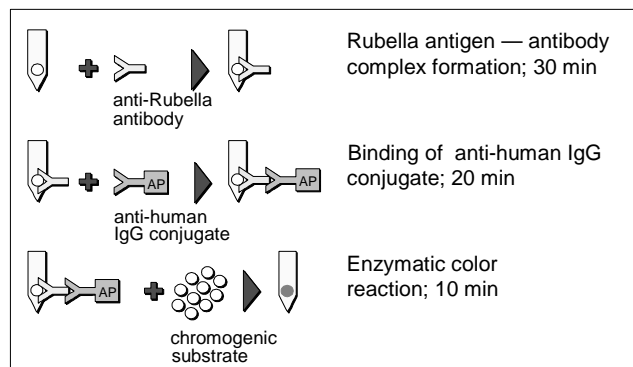

Figure 1. Principle of the Test
At the outset of the test, serum or plasma specimens are prediluted 1:11 and added to the diluent in the wells of row A of the Developing Plate. The Card is then inserted in the wells of row A. Antibodies against rubella virus, if present in the specimens, will specifically bind to the rubella antigens on the lower spot on the teeth of the Card (Figure 1). Unbound components are washed away in row B. In row C, anti-rubella IgG captured on the lower spots of the teeth, and the human immunoglobulin on the upper spots (Internal Control), will react with alkaline phosphatase (AP)-labeled anti-human IgG antibodies. In the next two rows, unbound components are removed by washing. In row F, the bound alkaline phosphatase will react with chromogenic components. The results are visible as gray-blue spots on the surface of the teeth of the Card.